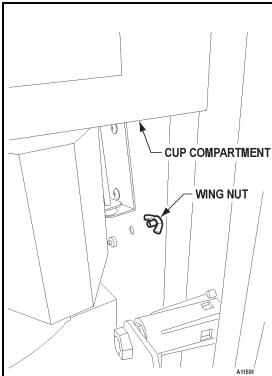
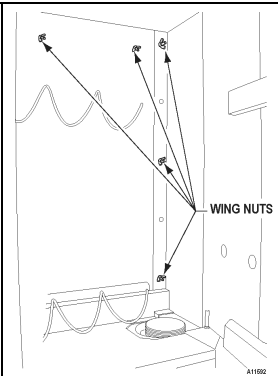

Figure 6a. Bottom Wing Nut
Figure 6b. Inside Wing Nuts
1. Remove and save the wing nut located on the right side below the cup compartment (as viewed from behind the door). See **Figure 6a**.
2. Open the cup compartment door. Remove and save the wing nuts located on the right corner of the cup compartment. Loosen the 2 wing nut holding Top Cap molding. See **Figure 6b**.
9. Reinstall and tighten the wing nuts from steps 1 and 2. See **Figure 6a** and **Figure 6b**.